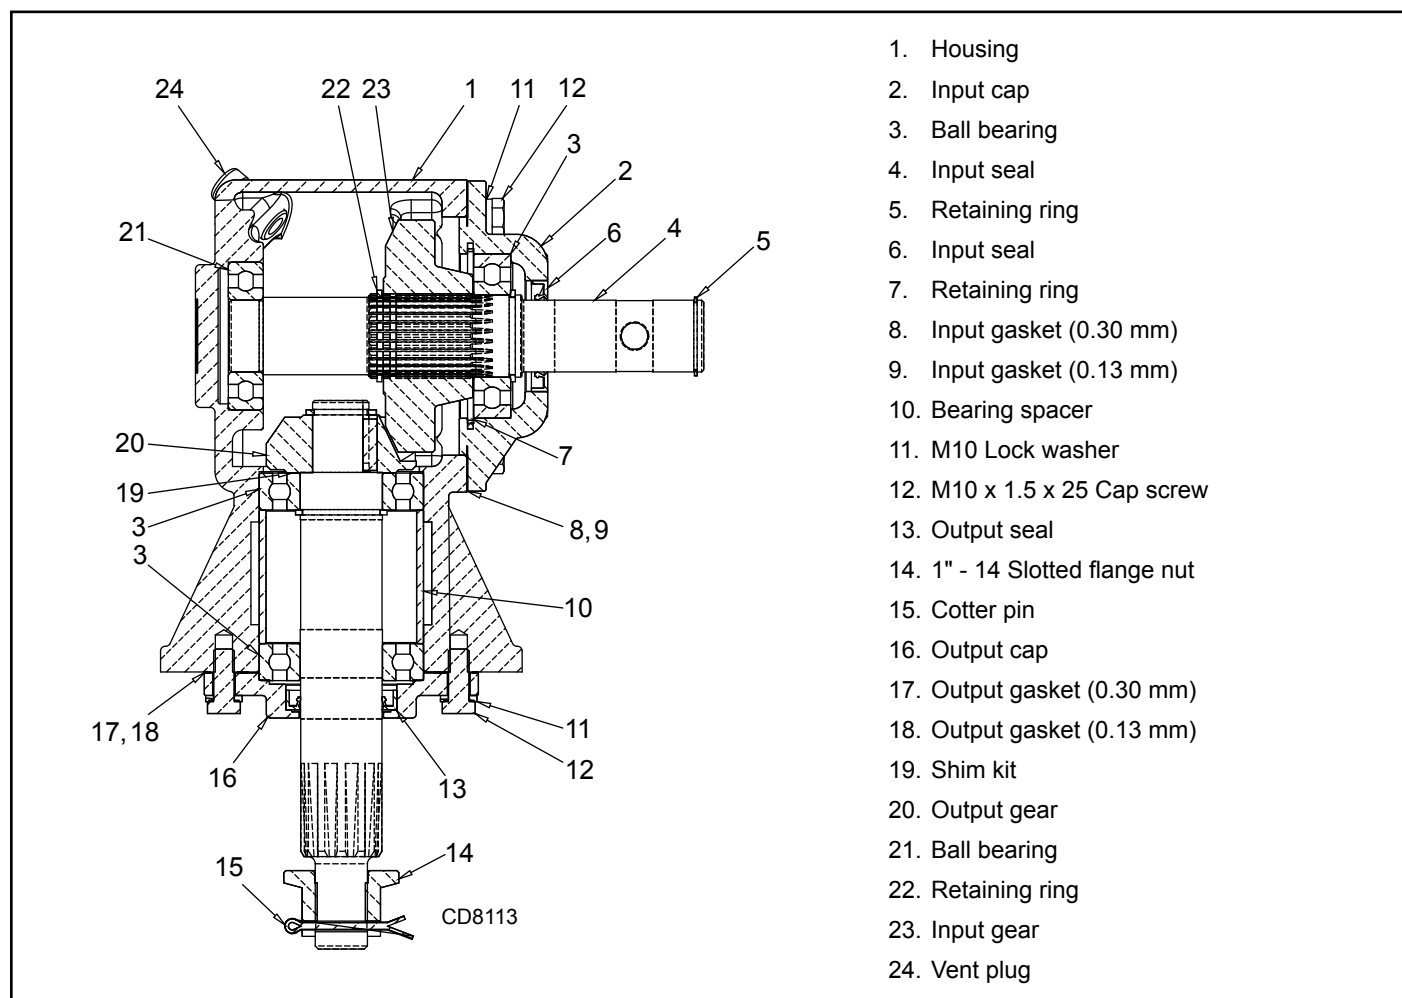

Figure 16. Cast/Crown Top Gearbox Assembly
(Figure 16)
### **(Figure 16)**
**NOTE:** You will need to use either the puller screw (Item 6, Figure 16) or a small hydraulic jack to remove the crossbar.